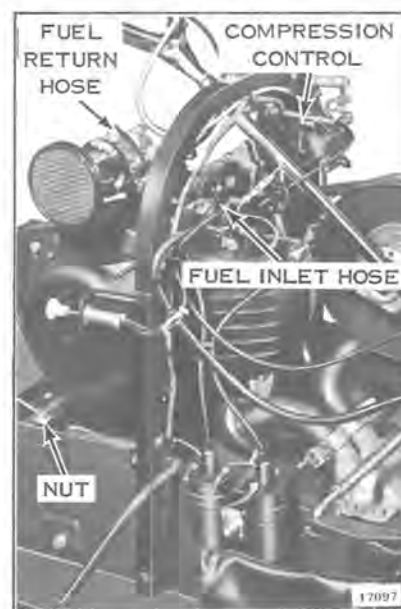

Figure 9-6
7. Disconnect inlet hose from fuel pump. See Figure 9-6.
8. Disconnect fuel return hose at carburetor. See Figure 9-6.
9. Remove compression control from instrument panel. See Figure 9-6.
11. Remove four nuts and washers attaching engine frame to chassis. See Figure 9-6.